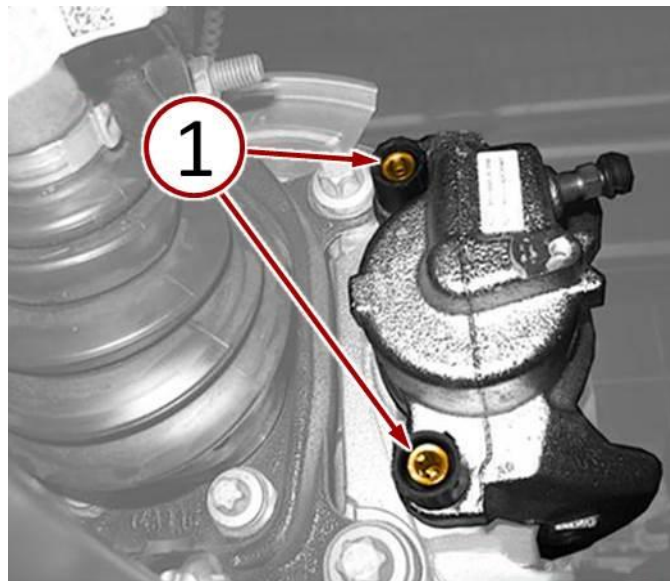

Fig. 1 Loosen Brake Caliper Guide Pin Bolts
THIS BULLETIN SUPERSEDES SERVICE BULLETIN 05-010-15, DATED OCTOBER 03, 2015, WHICH SHOULD BE REMOVED FROM YOUR FILES. ALL REVISIONS ARE HIGHLIGHTED WITH **ASTERISKS**** AND INCLUDE REMOVAL OF PREVIOUS STEPS 3, 4 AND 21, 22 IN ADDITION TO FIGURES 1 AND 11 RELATED TO CALIPER SPRING AND DUST CAPS WHICH ARE NOT APPLICABLE TO NAFTA MARKET. NEW INSTRUCTIONS ADDED FOR ROTOR ALIGNMENT AND REVISED CALIPER GUIDE PIN BOLT TORQUE SPECIFICATION.**
3. Loosen the brake caliper mounting guide pin bolts (1) (Fig. 1).